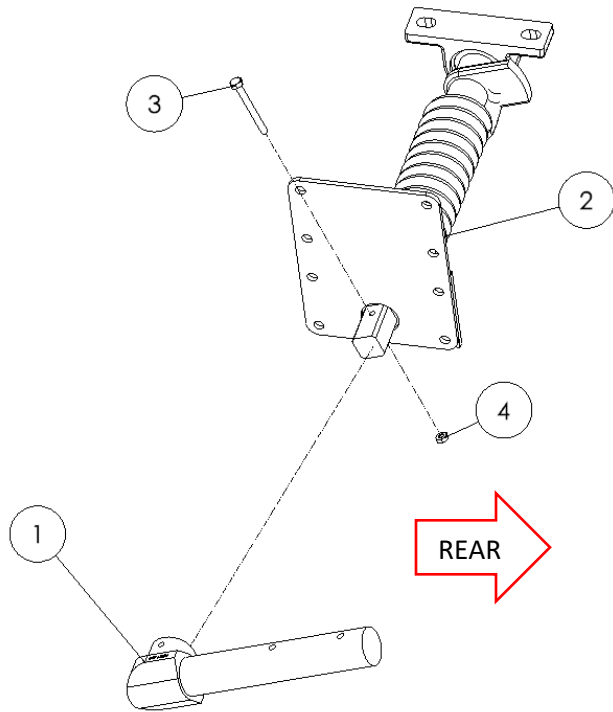

Figure 3.9
Attach the pivot casting using the supplied 1/4" x 2-1/2" hex bolt (3) and hex nut (4). (Figure 3.9)